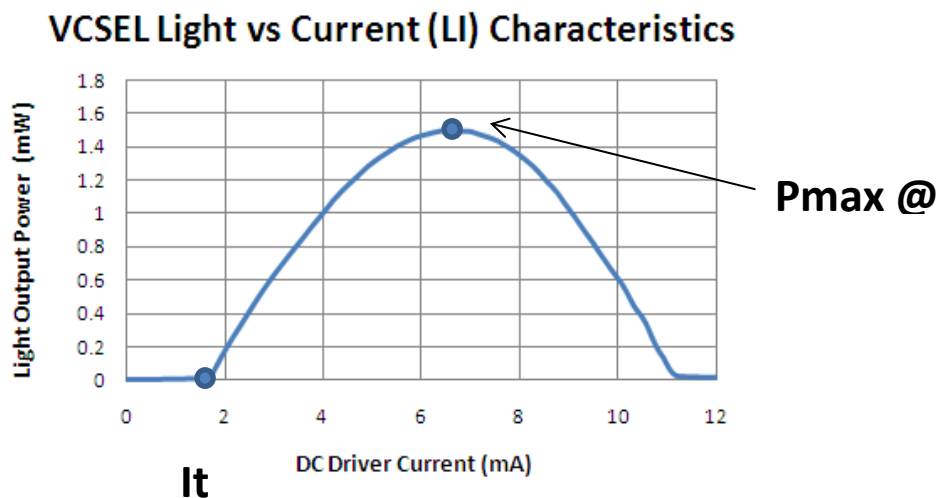

Figure 1: Example of Light vs. Current (LI) Curve for a VCSEL
A typical Light vs. Current (LI) curve for a VCSEL is illustrated in Figure 1. As the current is increased above the laser threshold current (I_{th}), the output power of a VCSEL will generally increase in a linear fashion and we can measure a slope efficiency (mW/mA) over some operating region, for example from 2 mA to 4 mA of the LI response of Figure 1. However, as the current is increased further the output power reaches a peak or maximum (P_{max}) at a current that is defined as I_{max} . As the current is increased further, beyond I_{max} , the LI curve rolls over. This rollover phenomena is caused by internal junction heating and is known as “Thermal Rollover”. Thus, thermal management is very important for VCSELs and to realize optical output powers beyond P_{max} we must consider the thermal characteristics of VCSELs. VCSELs are generally driven at high levels of current density and thus high levels of thermal flux density within their small volume active-junction regions.